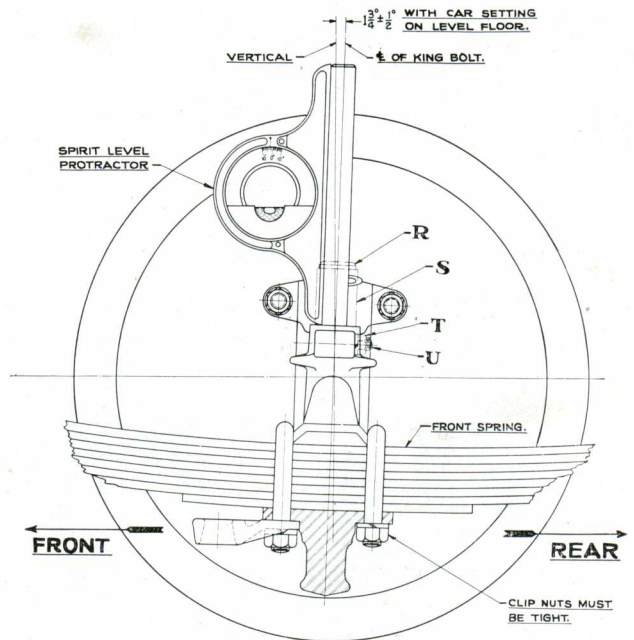

Fig. 65. King Pin Angle.
9. CHECK ANGLE OF KING PINS. See Figs. 65 and 66.